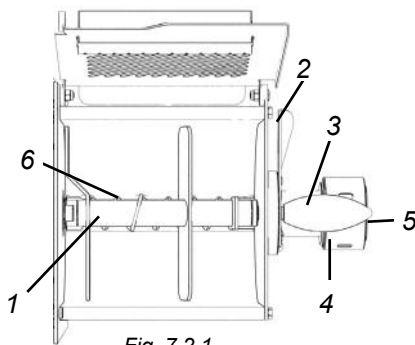

Fig. 7.2.1
1. Put the blade "1" in the position shown in Fig. 7.2.1.
**WARNING!** If the blade is not lying in the position shown in Fig. 7.2.1, it cannot be removed.